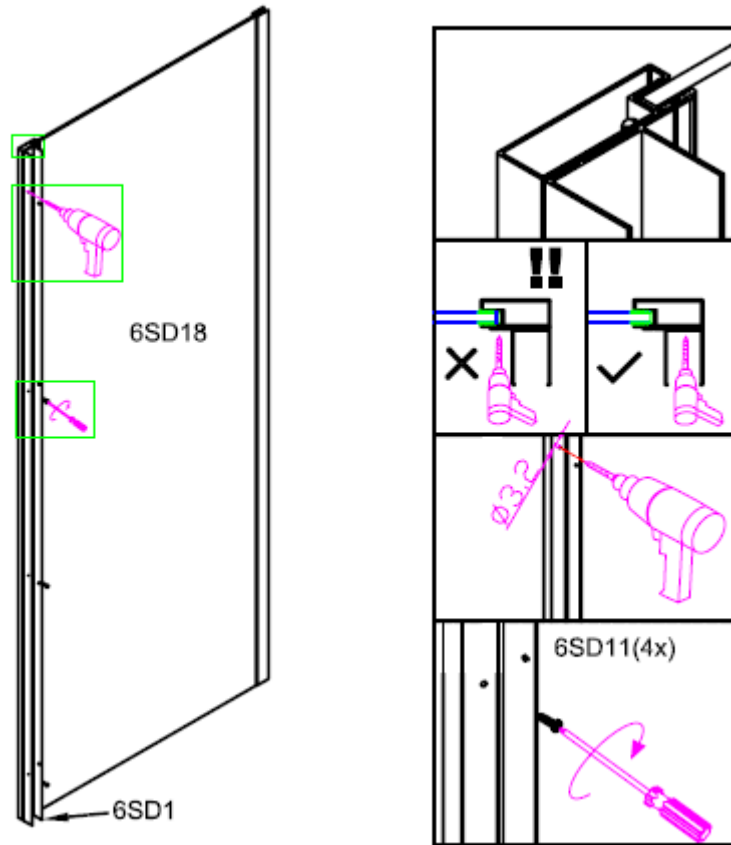

Figure 5
5. Screw the left wall profile(6SD18) ,as showed in figure 5.